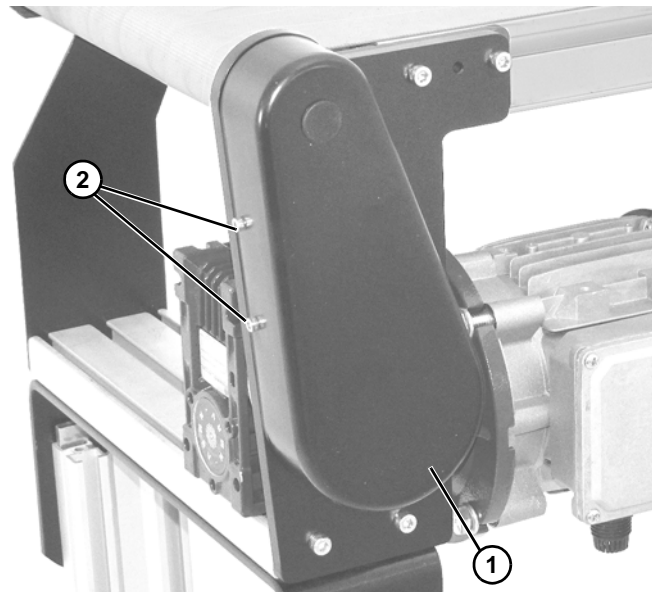

Figure 18
13. Install cover (**Figure 18, item 1**) with four screws (**Figure 18, item 2**). Tighten to 35 in-lb (4 Nm).
1. Remove four (4) screws (**Figure 18, item 2**) and remove cover (**Figure 18, item 1**).
4. Install cover (**Figure 18, item 1**) with four (4) screws (**Figure 18, item 2**). Tighten to 35 in-lb (4 Nm).
6. Install cover (**Figure 18, item 1**) with four (4) screws (**Figure 18, item 2**). Tighten to 35 in-lb (4 Nm).